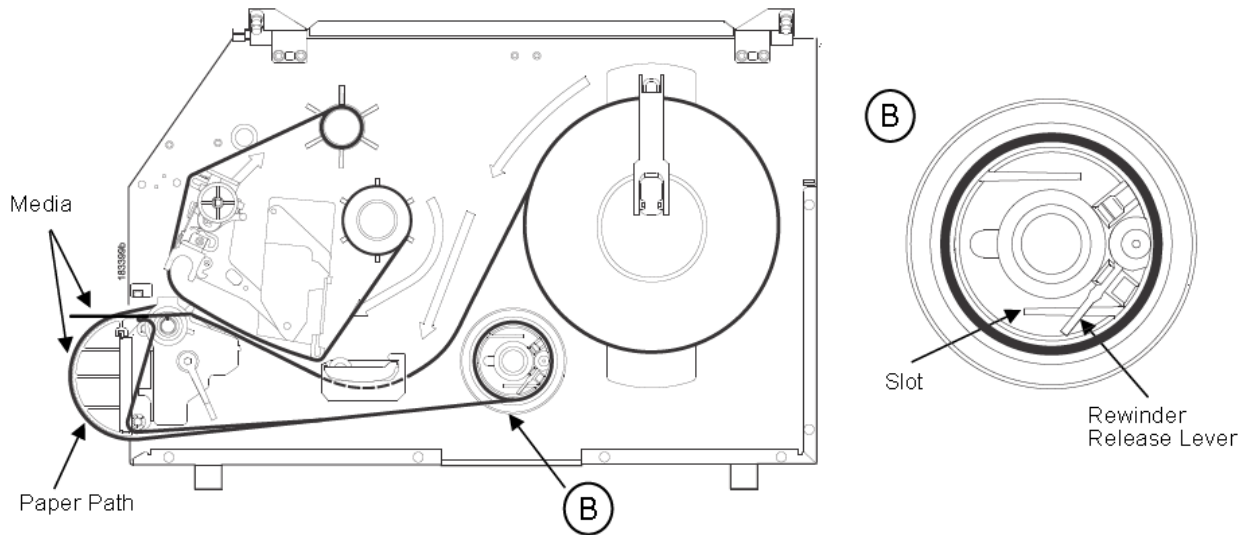

Figure 2 Loading Media
1. To load media, refer to *Figure 2* and follow “*Loading Media*” steps 1 through 9 on page 33.
8. Complete the media routing as shown in *Figure 2*.